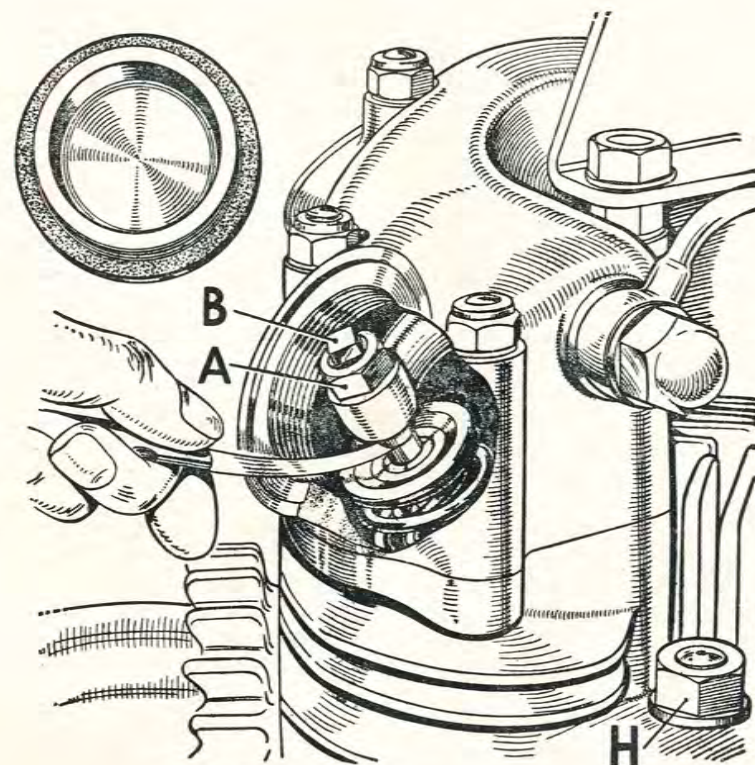

Fig. 4. Tappet Adjustment.
Rotate the engine forward until the inlet valve has just closed, i.e., the push rod is just free to rotate. This is the correct position for checking or adjusting the exhaust valve clearance. Slide a feeler gauge between the end of the valve and the adjusting pin as shown in Fig. 4. If the clearance requires adjusting slacken the locknut (A) and adjust the pin (B), until the correct feeler gauge will just slide between the valve and the pin.
Set the piston at top dead centre on the compression stroke (i.e., both valves closed) and take off the four nuts (H) Fig. 4, holding the cylinder head to the barrel. Leave the rocker box assembly in